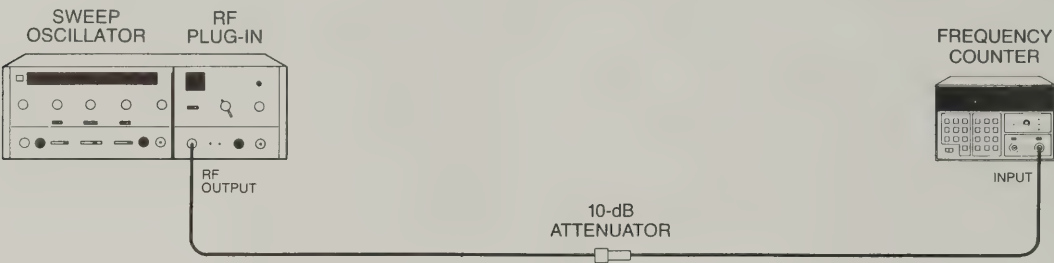

Figure 4-1. CW and Manual Sweep Accuracy Test Setup
Equipment listed is for two test setups (Figure 4-1 and 4-2).
- a. Connect equipment as shown in Figure 4-1.